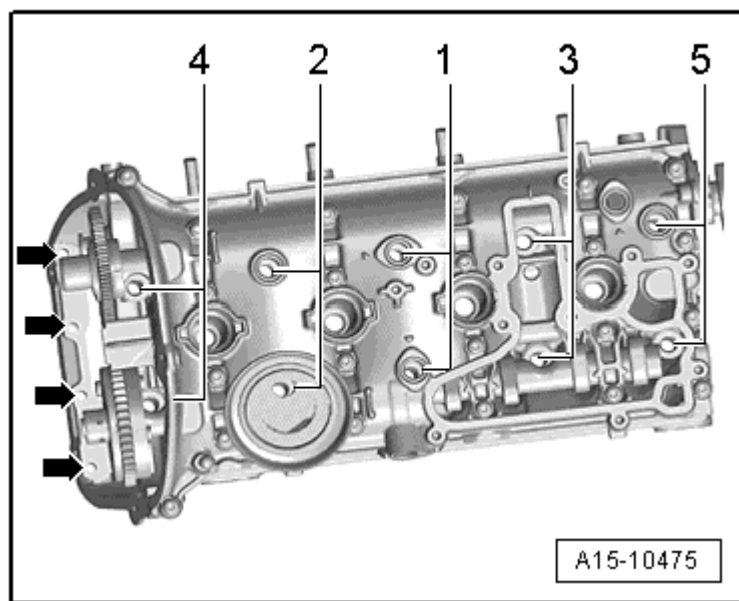

Fig. 4: Identifying Cylinder Head - Tightening Sequence
- Tightening sequence, refer to **Fig. 4**.
- Observe the sequence for tightening, refer to **Fig. 4**.